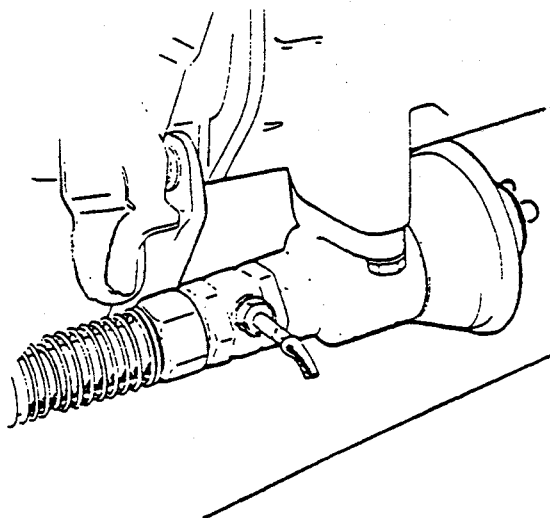

Figure 1. Removing EGR Valve Retaining Bolts
1. Remove the EGR valve retaining bolts and remove the EGR pipe from the exhaust manifold. Lift out the valve and pipe (figure 1).